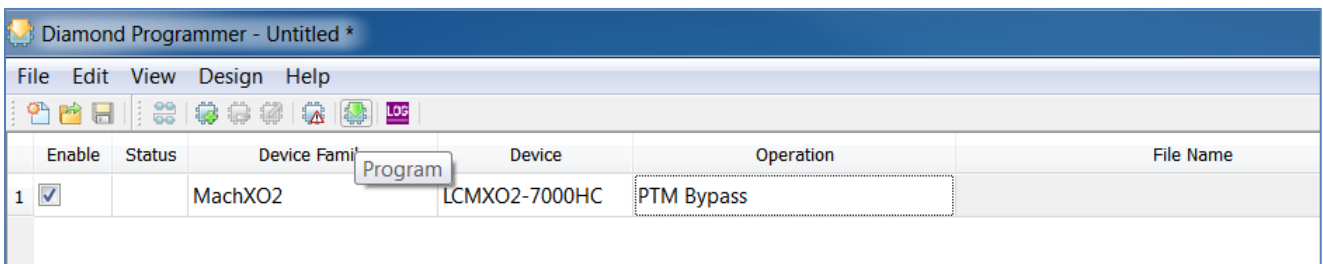

Figure 6.21. ASC Socket – Programming
- Program the ASC device through the MachXO2 device on the Smart Socket board by clicking the **Program** icon  as shown in Figure 6.21.